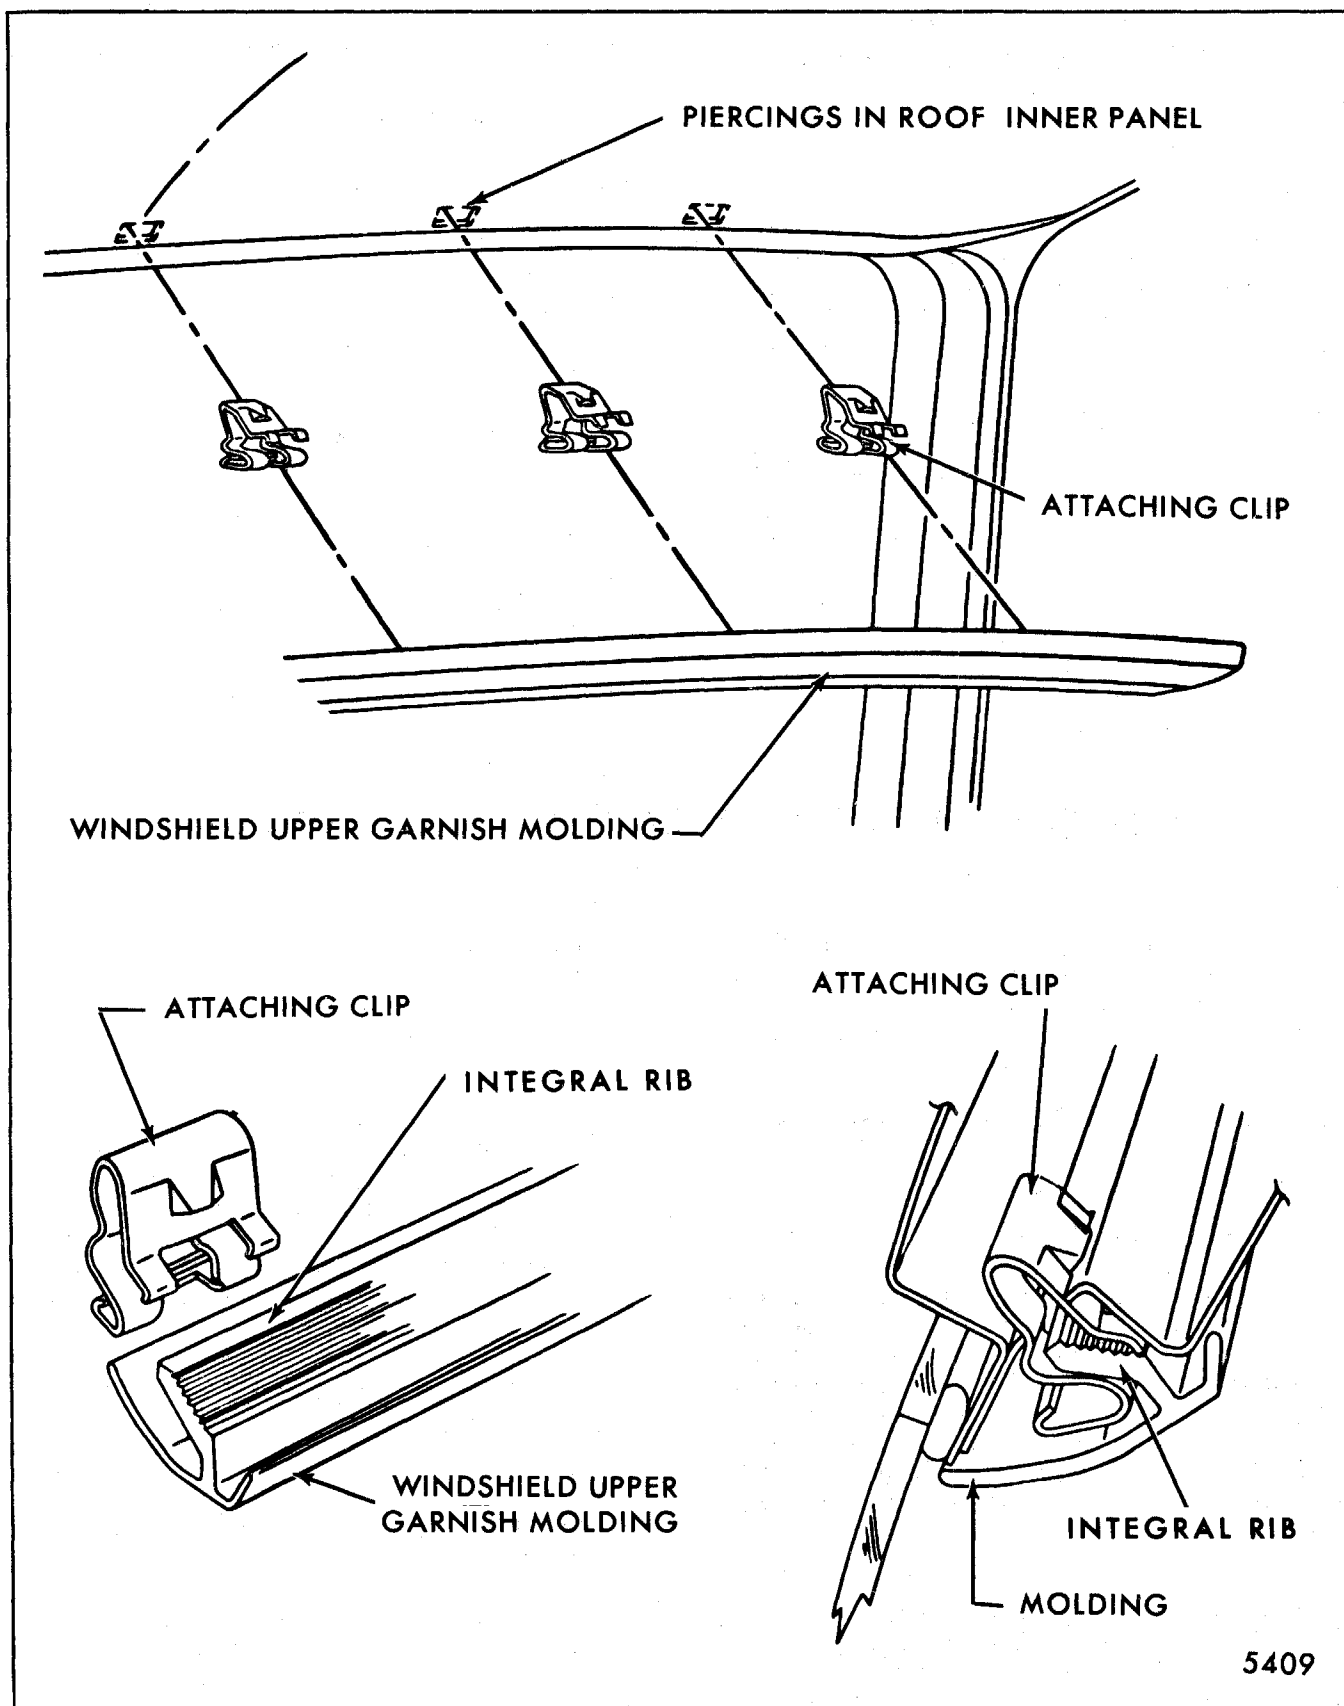

Fig. 8-13-Windshield Upper Garnish Molding - "A" Styles
3. Insert tool J-2772 or equivalent between headlining and back of metal clip and pry clip forward to disengage clip and molding from roof inner panel (Fig. 8-13). On "B,C" styles, carefully force clip loose from header by inserting a flat-bladed tool between the headlining and molding and deflect retaining wings of clip.